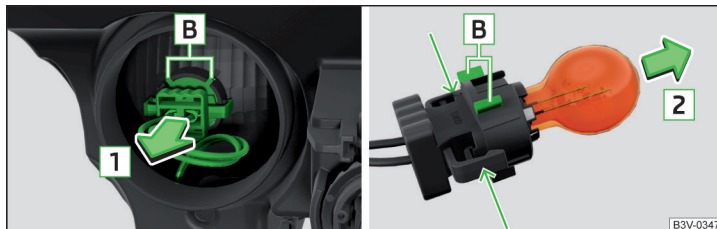

Fig. 363 Changing the bulb for the front turn signal light
- › Remove the holder with the bulb by jiggling it out in the direction of the arrow **1** » Fig. 363.